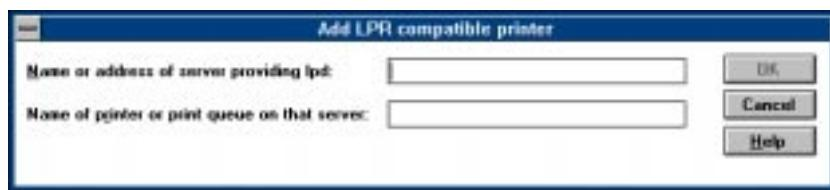

Figure 15. Add LPR Compatible Printer Dialogue Box
6. Select “LPR Port” from the list that displays and click OK to bring up a dialogue box similar to the one found in Figure 15.